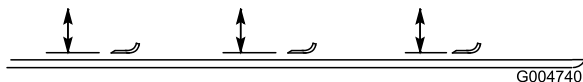

Figure 99
2. Rotate the blade until the ends face forward and backward (Figure 99). Measure from the inside of the cutting unit to the cutting edge at the front of the blade. Record this dimension.